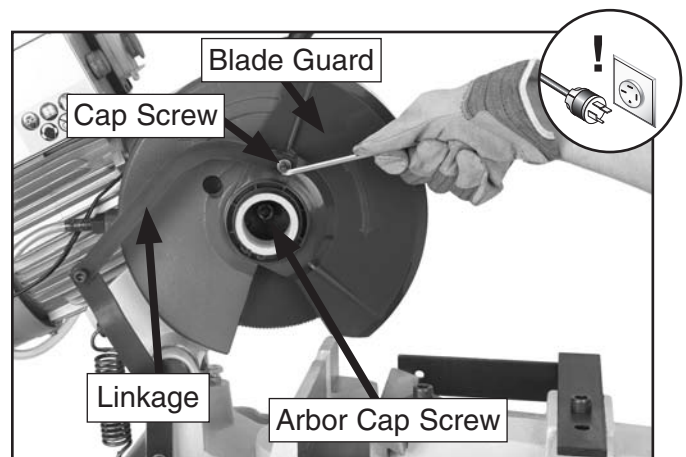

Figure 42. Removing guard linkage.
2. Disconnect the blade guard linkage by removing the cap screw that connects it to the saw guard (**Figure 42**).